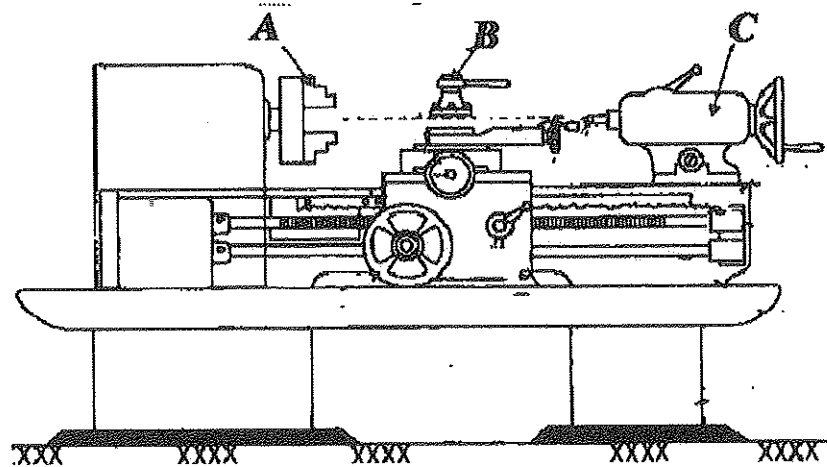

Figure 2a (i) / Rajah 2a (i)
- (a) i. **Figure 2a (i)** shows various parts of centre lathe machine labelled as **A**, **B**, and **C**. State the name and function of the labeled parts.